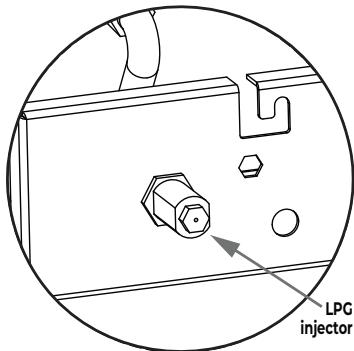

FIG. 1 - GAS VALVE
3. A) **MAIN BURNERS:** Remove the main burners by releasing the spring clip at the back of each burner. Carefully tilt the burner upward while twisting it away from the flame failure probe. Pull the burner upward and backward to disengage it from the valve stem. When the burners are removed you should see the injectors as shown in Fig. 1 (refer to diagrams on page 49).